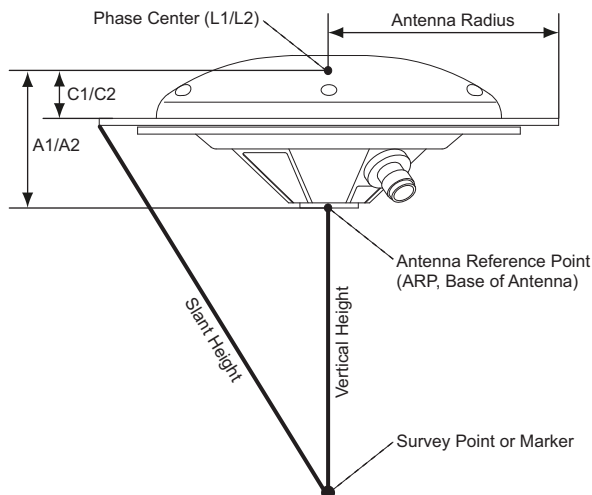

Figure 6-12. Determining Antenna Parameters
Figure 6-12 to properly add a custom antenna and ensure correct coordinate computations.
1. Measure or record the antenna's offset parameters as shown in Figure 6-12.